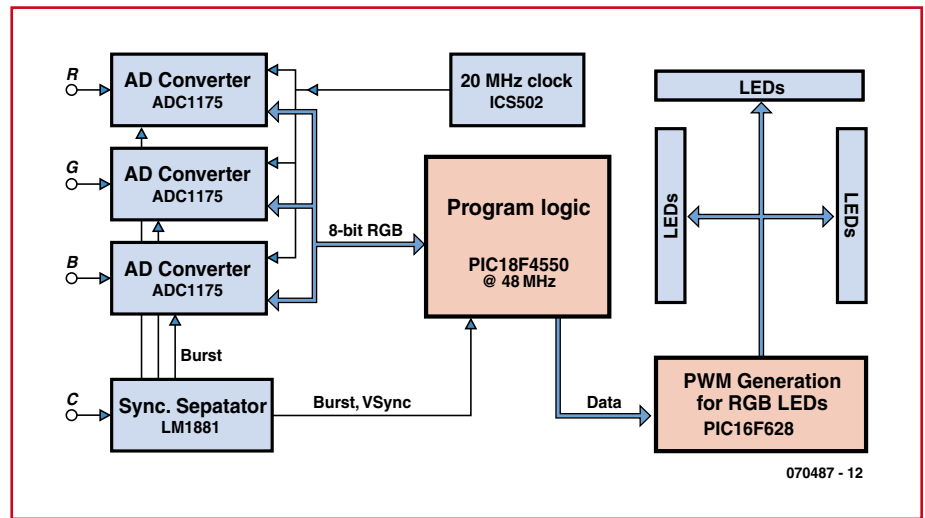
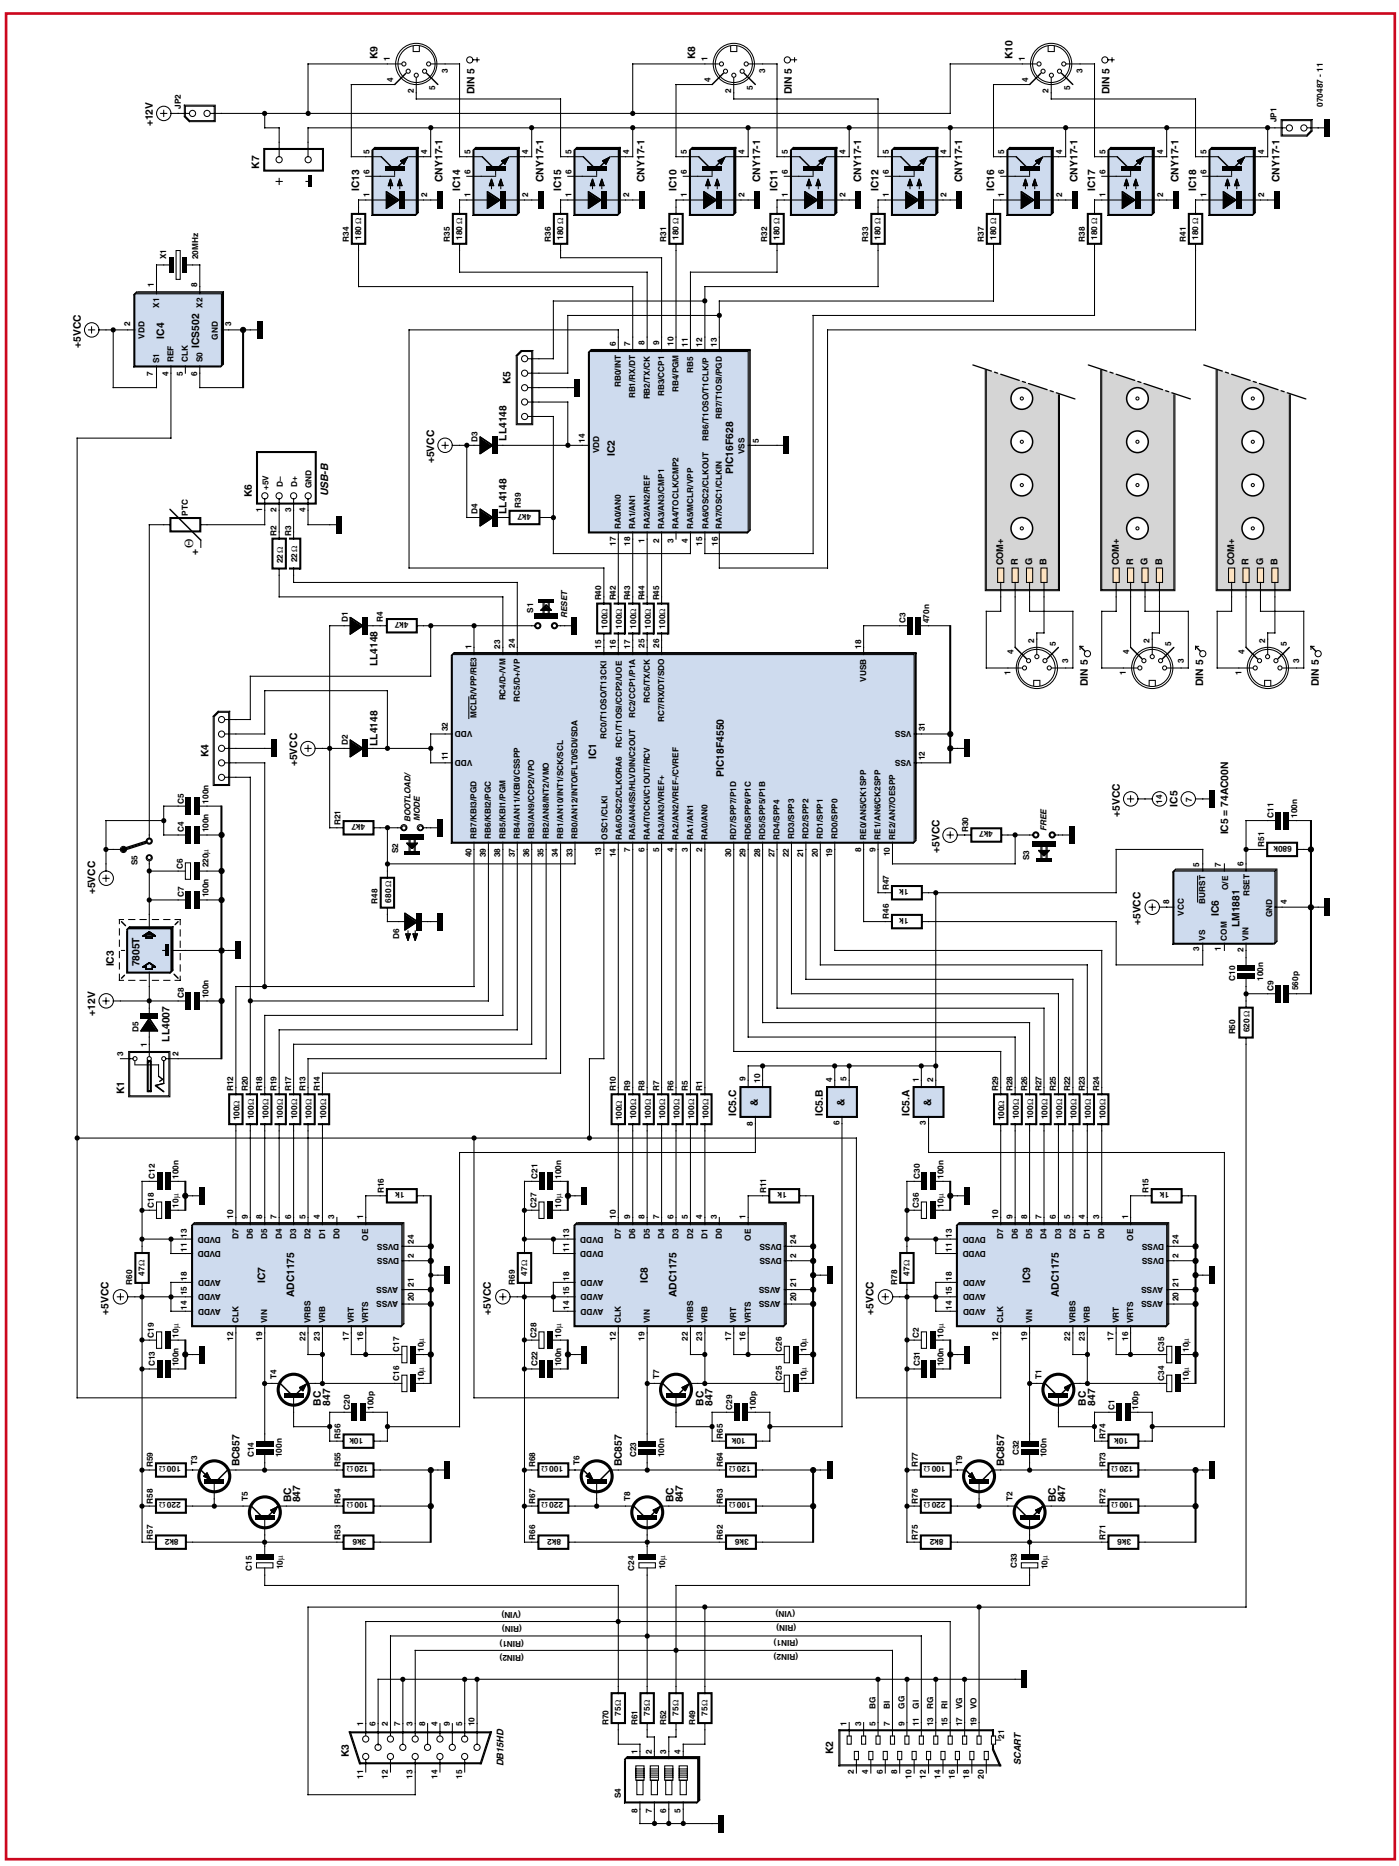

Figure 1. Block diagram of the TV Light. The digital approach to this ambient lighting system boasts two microcontrollers.
Figure 2. Schematic diagram of the TV Light. You can easily see the various functions of the block diagram here.
– Solder four wires (three for the colours and one for +5 V) to the four solder pads, and then solder the other ends to a DIN 5 plug according to the schematic diagram shown in **Figure 2**.
The block diagram in **Figure 1** shows that the circuit uses four input signals taken from the SCART connector of a DVD player or the VGA connector of a graphics card in a PC. These four signals – red (R), green (G), blue (B), and composite video (C) – are fed to the circuit via two connectors. All of the signals received via these two connectors are processed the same way.
The schematic diagram in **Figure 2** is actually just a more detailed version of the block diagram in Figure 1. If you glance at the author's first prototype shown in the **photo**, you can recognise the main features of the block diagram in Figure 1. From left to right and top to bottom, you can see the three analogue to digital conversion modules using the ADC1175 (IC7–IC9). This A/D converter operates at 20 MHz and has a resolution of 8 bits.